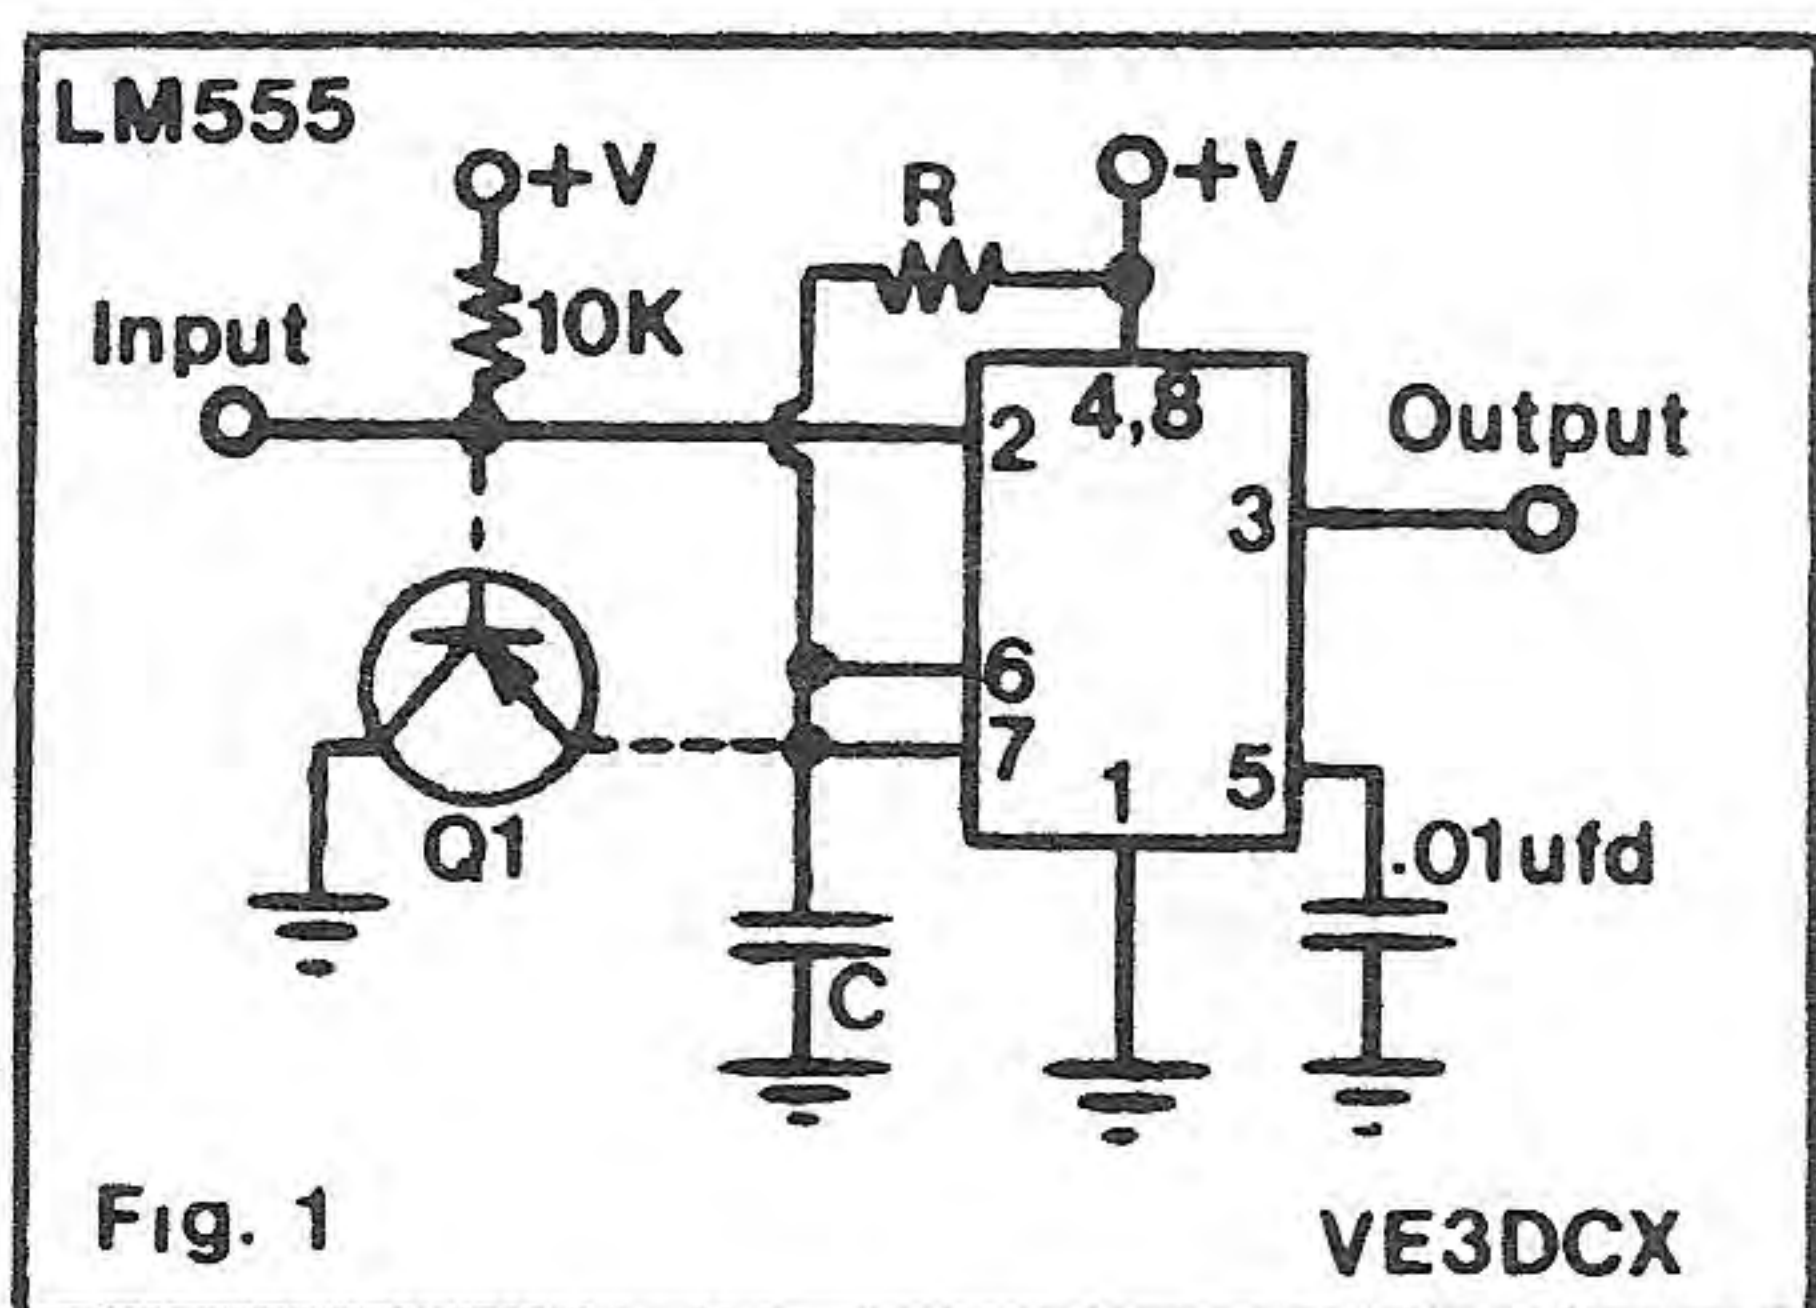

Fig. 1
E) Locate the seven pin MOLEX style plug marked "D". There are 5 wires going from this plug to the microphone jack. The plug should be configured as in Figure 1.